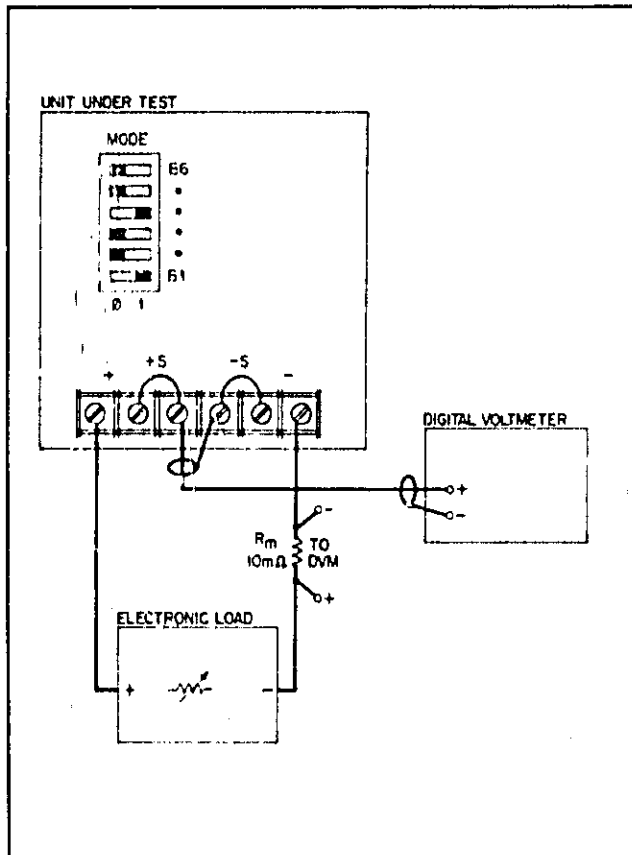

Figure 5-5. Basic Test Setup
- a. Connect the test equipment as shown in Figure 5-5. Operate the load in constant resistance mode (Amps/Volt) and set resistance to maximum.
5-40 Use the equipment setup of Figure 5-5 to display output voltage transients while switching the load between either 10% I or 50% I with the output set at 20 Vdc. Proceed as follows:
- Connect the test equipment as shown in Figure 5-5. Operate the load in constant-current mode and set for minimum current.
- Connect test setup shown in Figure 5-5, except replace the load with a short circuit.
- a. Connect the test equipment as shown in Figure 5-5. Operate the load in constant resistance mode (Amps/Volt) and set resistance to minimum.